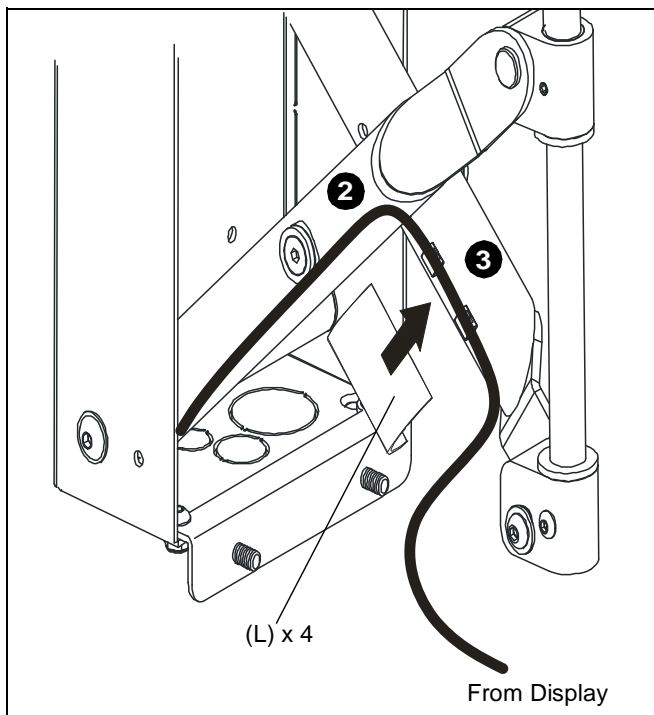

Figure 13
2. Route cables down arms on mount. (See Figure 13)
3. Position cable covers (L) over arm and cable and press cable covers (L) down onto arms to secure cables. (See Figure 13)